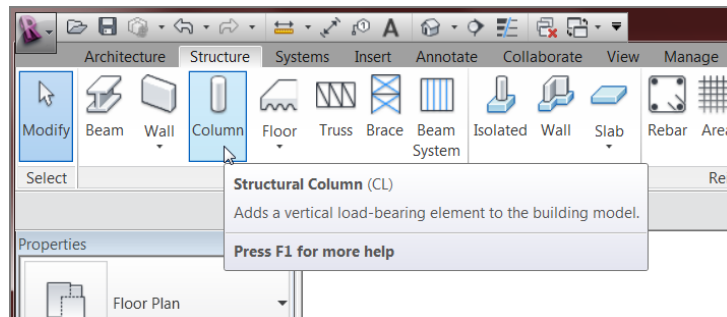

FIGURE 8.21: Column > Structural Column on the Structure tab of the Ribbon
3. On the Structure tab, choose Column > Structural Column, as shown in Figure 8.21. This tool is also on the Architecture tab.